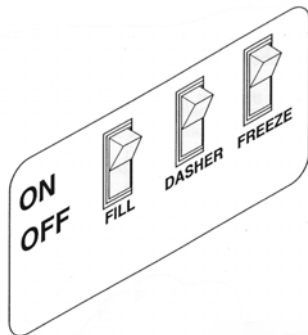

Fig. 3
1. Set the freeze switch (Fig. 3) and fill switch to the "OFF" position and set the dasher switch to the "ON".